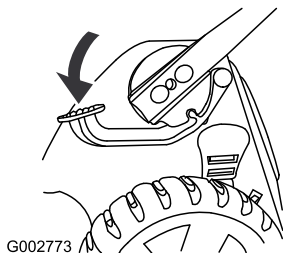

Figure 55
1. Step on the foot pedal and hold it down (Figure 55).